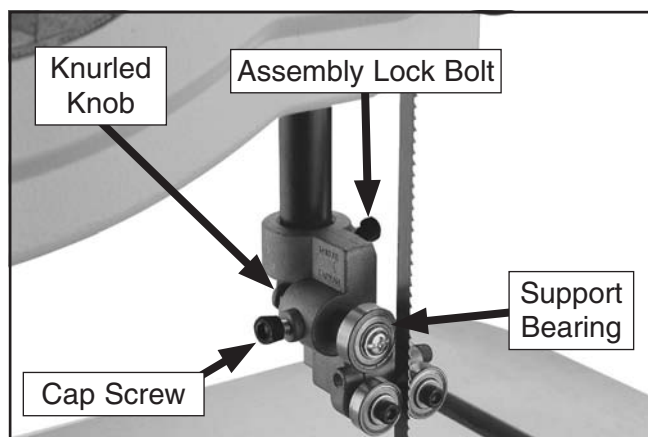

Figure 29. Upper support bearing assembly and controls.
2. Familiarize yourself with the support bearing controls shown in **Figure 29**.
5. Tighten the assembly lock bolt (see **Figure 29**).
6. Loosen the cap screw (see **Figure 29**) on the support bearing adjustment shaft.